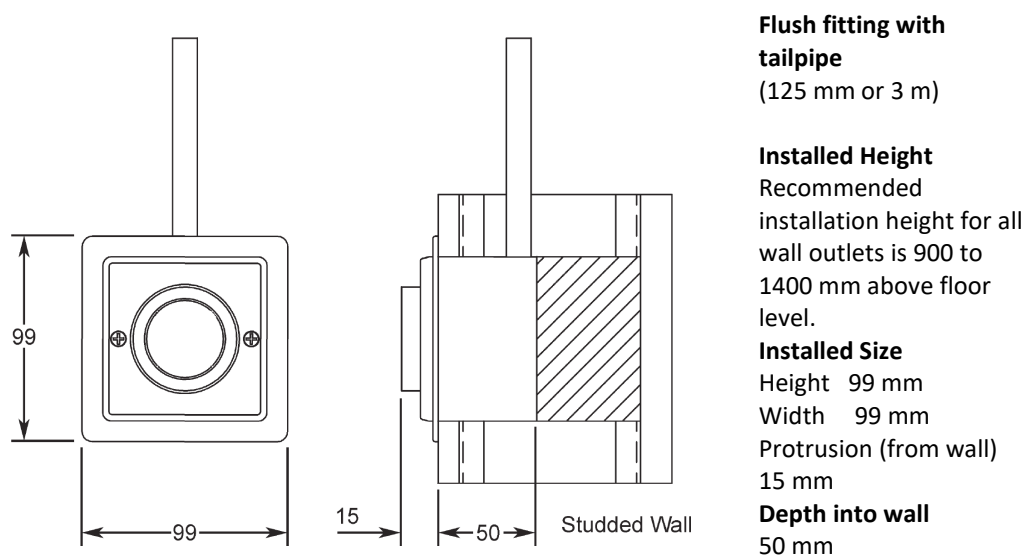

Figure 5-2 Flush mounted terminal unit for studded wall
5.3.2 Flush mounted terminal unit for studded wall (Figure 5-2)